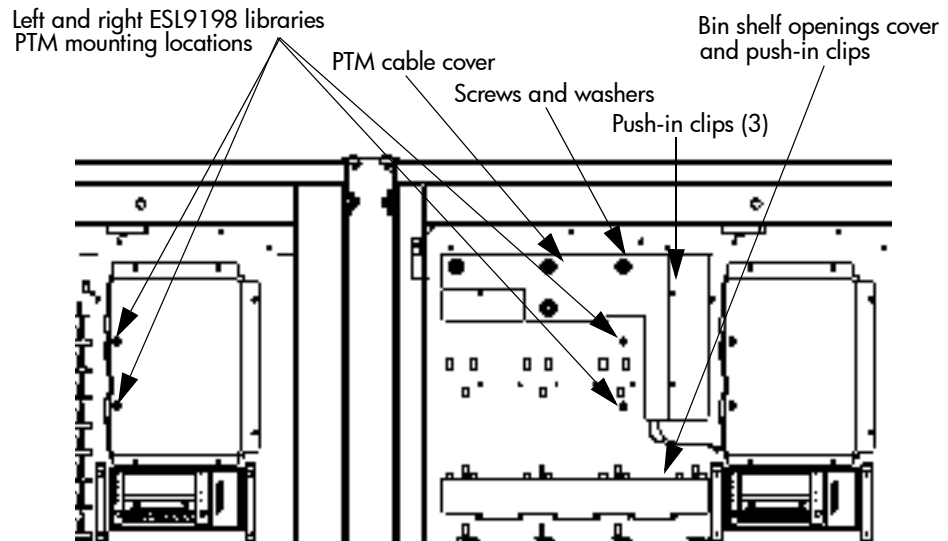
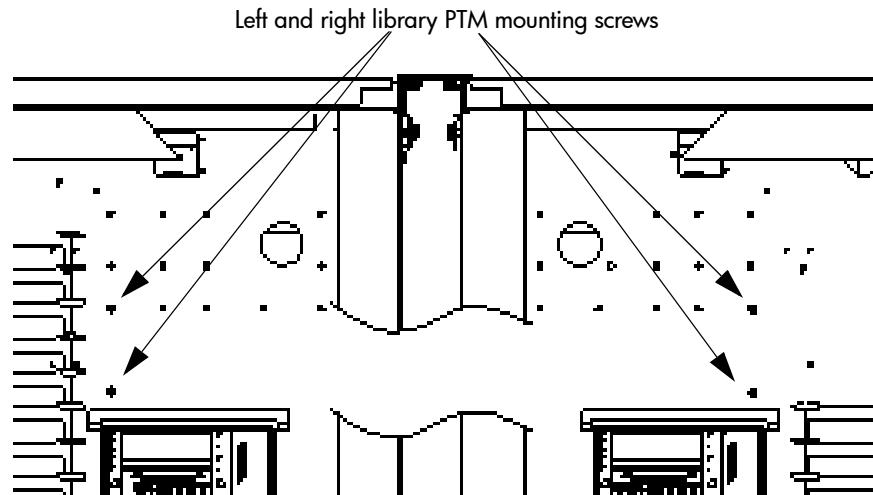

Figure 13: PTM mounting points (ESL9198 shown)
Figure 22: Mounting points (ESL9326 shown)
4. Attach the pass-through cable cover with three nylon push-in clips and four 10-32 x 5/8 screws and washers to the bin wall to cover the cable and cable hole, ensuring that the PTM cable is routed correctly under the raised channel in the cover (see Figure 13). Tighten screws to 30 ± 3 in lb.
5. Install the bin shelf openings cover using six nylon push-in clips (see Figure 13).
6. Install two 10-32 x 5/8 screws with # 10 washers in the mounting locations shown in Figure 13. Do not fully tighten; leave approximately 1/4 in. of space in between the washer and the bin wall.
3. Install two 10-32 x 5/8 screws with #10 washers on the bottom mounting tabs of the PTM, one in each library (see Figure 13).
3. Install two 10-32 x 5/8 screws with #10 washers in the locations shown in Figure 13 on page 37 and Figure 22. Do not fully tighten; leave approximately 1/4 inch of space in between the washer and the bin wall.